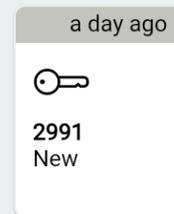

Fig. 152 – My held card
- 🔑 The top bar displays when you took possession of the asset, such as **a day ago**, as shown in Fig. 152.